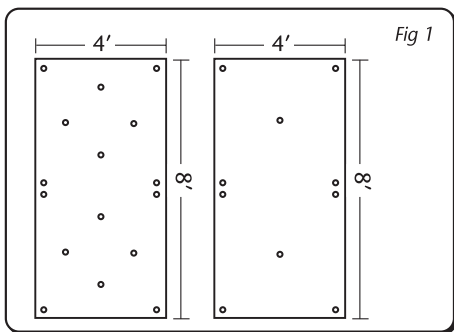

FIGURE 1 - Fastening Pattern
Fastening Screws and Plates shall be applied at the minimum rate of ten (10) per 4 ft. x 8 ft. board of insulation, and five (5) per 4 ft. x 4 ft. board, or as required by the insulation manufacturer. When installing insulation around the perimeter, the fastening pattern is one (1) fastening screw and plate every two (2) square feet (16 per 4 ft. x 8 ft. board). Examples of fastening patterns are shown in Figure 1. NOTE: Extra fastening screws should be installed around protrusions such as pipes, chimneys, skylights and irregularities in the roof deck.